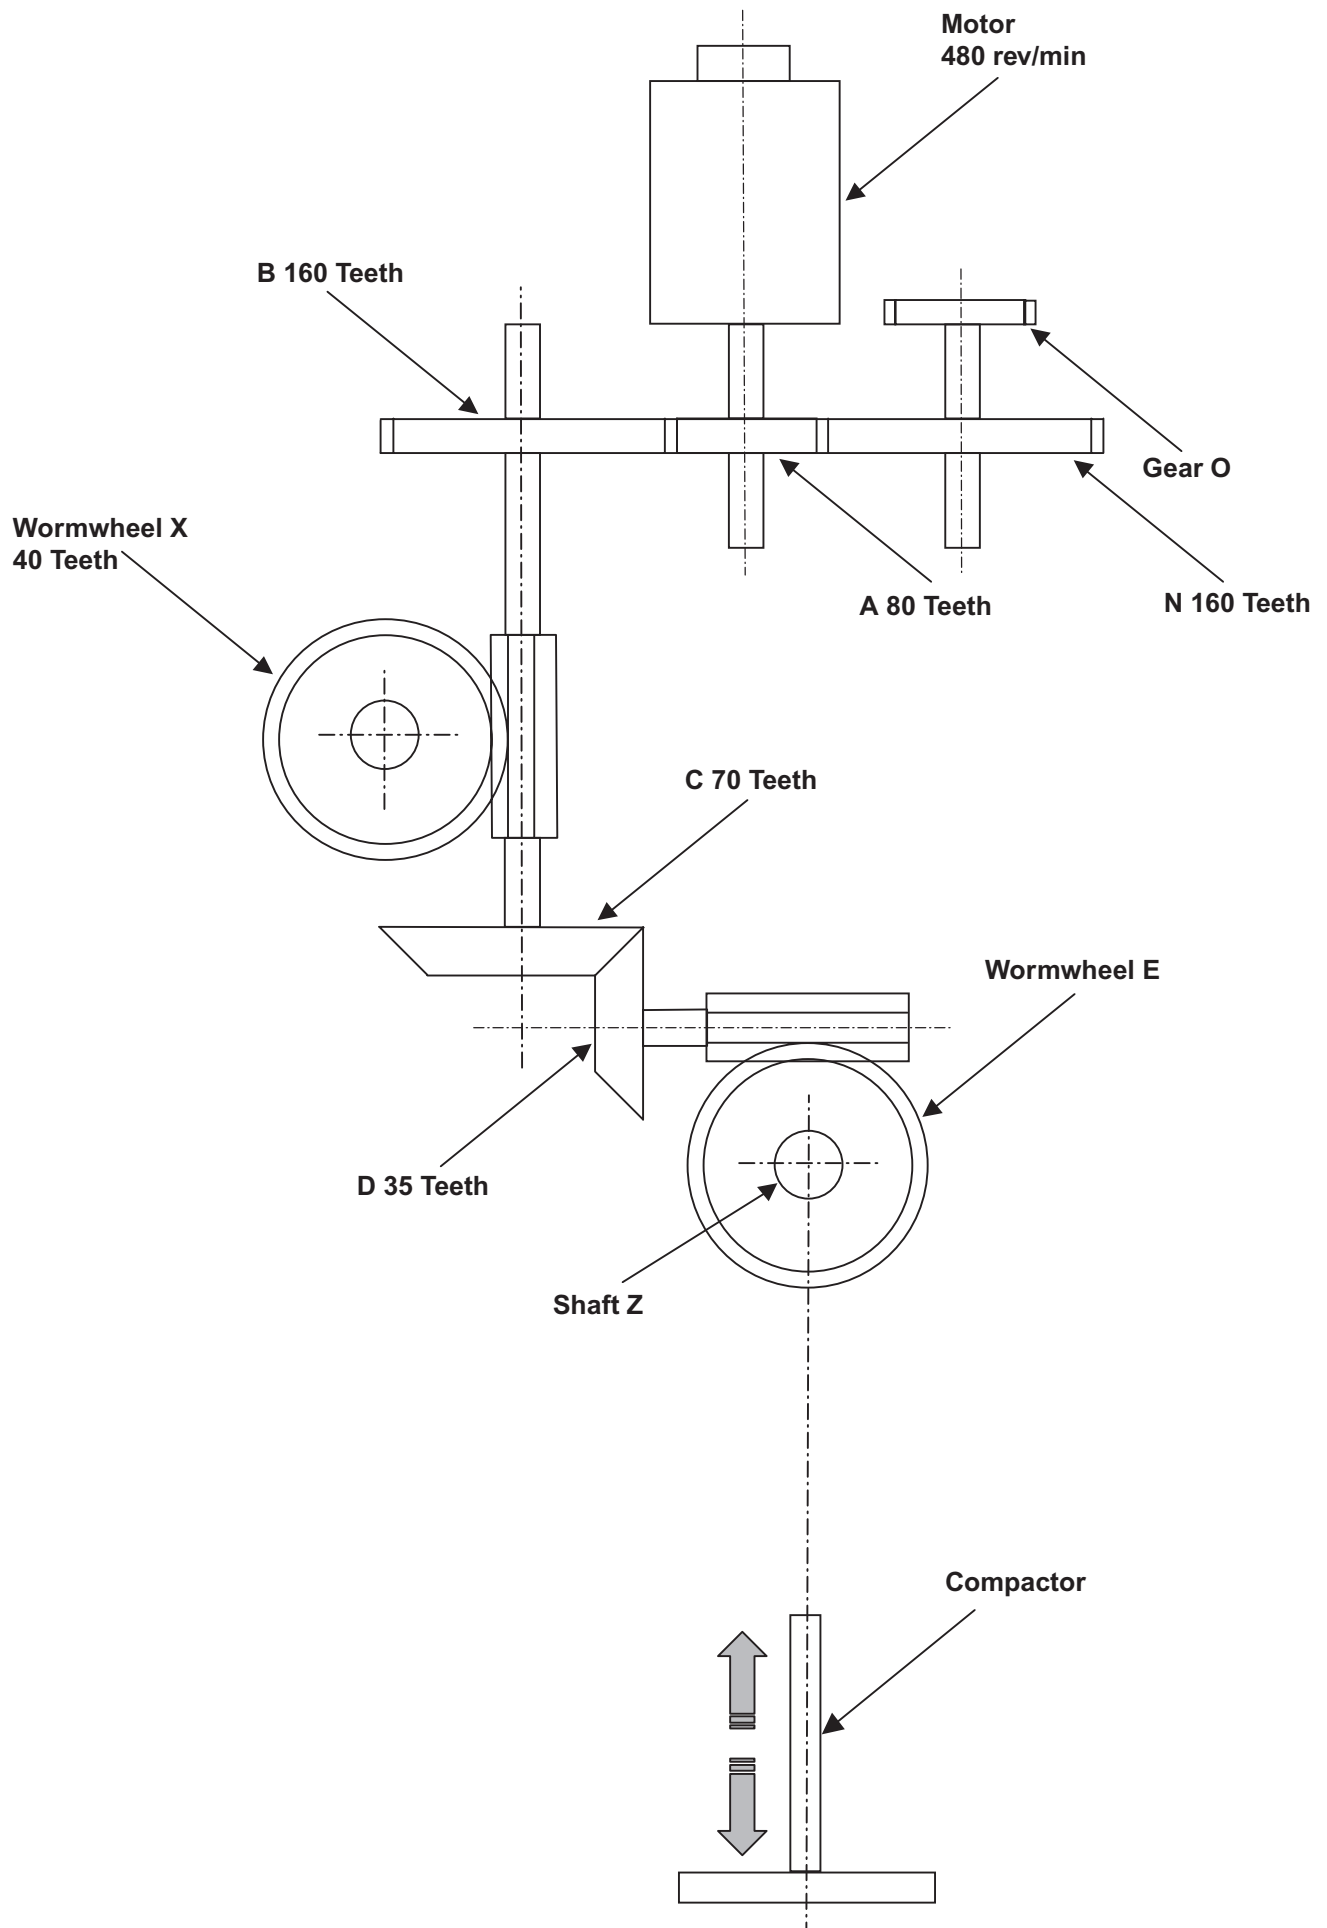

Fig. 11(b)
- (vi)** Name each type of gear from gears **A** to **D** and describe if there is an increase or decrease in transmission speeds between them. Include in your explanation why there is a significant difference in transmission speeds between the worm and wormwheel arrangements in **Fig. 11(b)**. [2]